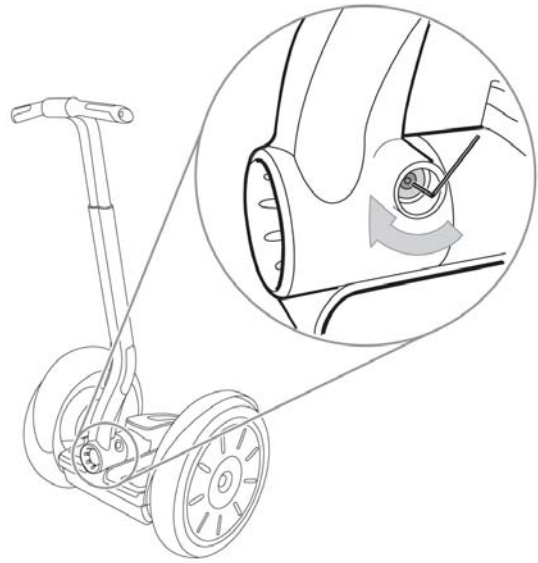

Figure 1-8: Tighten Fastener Holding LeanSteer Frame in Place
6. Tighten fastener (20631-00001) to 11.0 N-m (8.1 ft-lbf). See Figure 1-8.